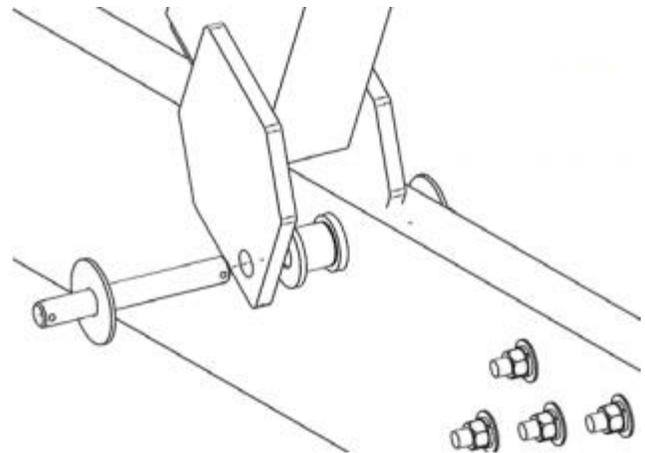

Figure 10
1. Align the mounting holes on the Bow Side H-Frame hinge plate with the Hinge Bushings located on the Side Beam as shown in Figure 10.
2. Insert one (1) 1/8" Cotter Pin into one (1) 3/4" x 5" Hinge Pin, bending the tines of the Cotter Pin outward and apart, securing the Cotter Pin within the Hinge Pin.
4. Slide the Hinge Pin through the hinge plate as shown in Figure 10.
5. Insert one (1) Lollipop Washer and one (1) 1/8" Cotter Pin into the protruding end of the Hinge Pin, bending the tines of the Cotter Pin outward and apart, securing the Cotter Pin within the Hinge Pin.